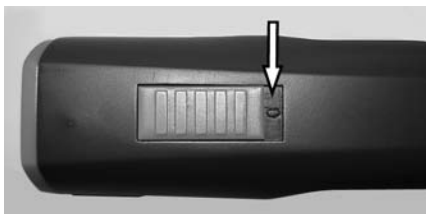

fig. 4 Switch in OFF-position ("0")
1. Test the contacts of the clipper (1) and the battery (2) for foreign particles and contamination.
2. Assure, that the switch of the clipper is in OFF-position ("0") (fig. 4).
3. Insert the battery (2) in the clipper (3), until the battery interlock (1) is engaged on both sides.
1. Move the switch to position "0" (fig.4).
2. Push the battery interlock (2) on both sides inward and pull the battery (1) out of the clipper.
1. Move the switch to position "0" (fig. 4).